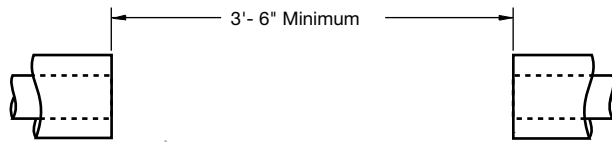

Figure F-101. Remove damaged section of pipe
1. The damaged section of pipe is removed first (Figure F-101).